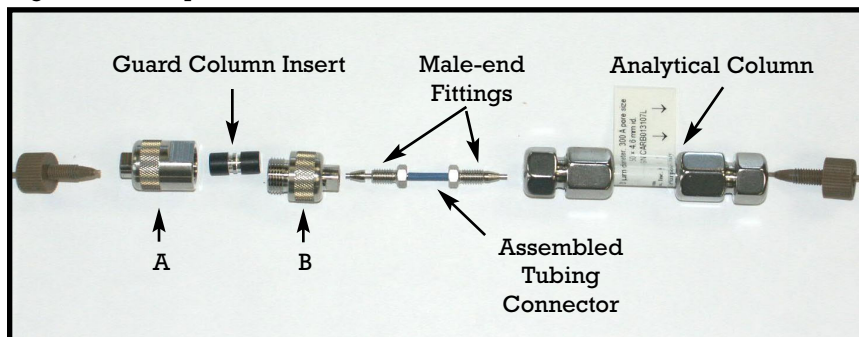
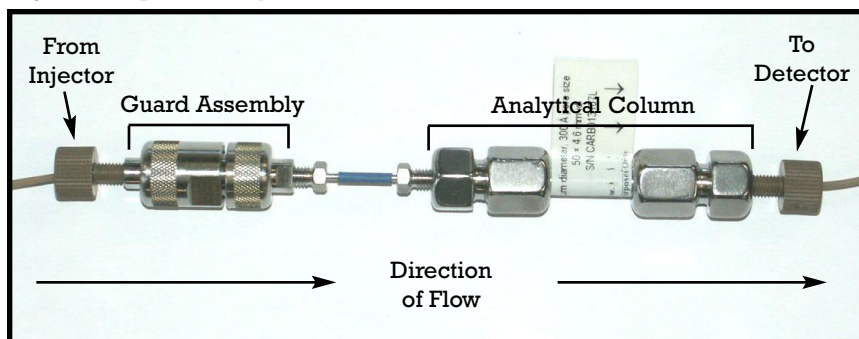

Figure 2: Expanded Layout
Figure 3: Final Assembly
- 1) Unscrew portion A of the guard assembly from portion B (see **Figure 2**). 2) Seat the guard insert into portion B of the guard assembly. 3) Replace portion A of the guard assembly and turn clockwise until finger-tight. 4) Using two wrenches, tighten guard assembly until leak-tight (approximately 30 degrees).
- 1) Assemble the tubing connector by placing one 1/16" nut and one ferrule on each end of the tubing segment (see **Figure 2**). 2) Insert one end of the assembled tubing connector into the inlet of your analytical column (see **Figure 3**). 3) Screw the male-end fitting, until finger-tight, into the inlet of your column while applying slight pressure to correctly seat the ferrule. 4) Further tighten the male end fitting with a wrench until it is leak-tight. 5) Insert the other end of the assembled tubing connector into the outlet of your guard assembly (see **Figure 3**). 6) Screw the male-end fitting, until finger-tight, into the outlet of your guard assembly while applying slight pressure to correctly seat the ferrule. 7) Further tighten the male end fitting with a wrench until it is leak-tight. 8) Place the inlet fitting from your HPLC injector into the inlet of the guard assembly and rotate until finger-tight. 9) Place the outlet fitting to your analytical column and rotate until finger-tight. Your final assembly is now complete (see **Figure 3**).